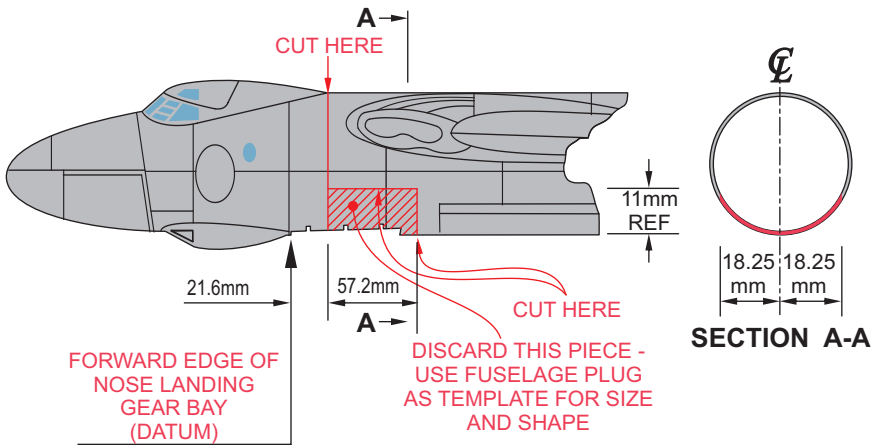

Figure 1
A Cut the fuselage halves as shown in Figure 1. It is important to position this cut accurately, because the hinge lugs of each nose landing gear door fit in one slot on the fuselage and two slots in the fuselage plug. If the position of the cut is not completely accurate, you can widen the slots in the plug to accept the lugs of the nose landing gear doors.
- C Cut the rectangular section from the lower rear fuselage as shown in figure 1, and to the width shown in Section A-A of Figure 1.